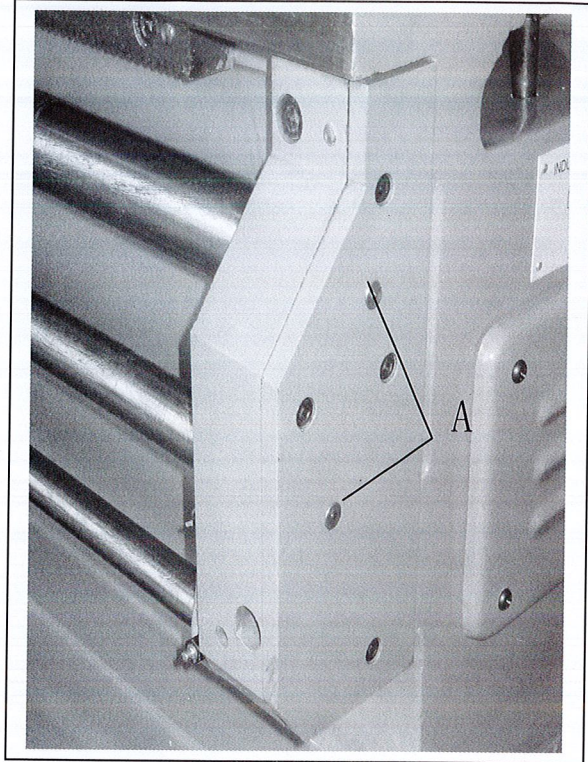

Fig.6
4. **Leadscrew & Feed Rod:** Lubricate two ball oilers on the right side bracket (A, Fig. 6) with Mobil DTE® Oil Heavy Medium oil daily.